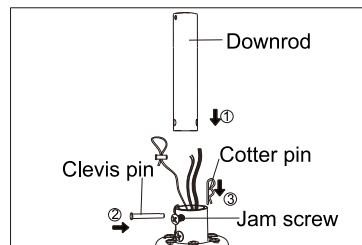

Figure 1.2
- Thread the electric wires and safety cable through the down rod, and insert the down rod into the collar on top of the motor housing. Install the clevis pin by aligning the hole in the down rod with the hole in the top collar, being careful not to damage or cut the fan wires, and secure it with the cotter pin through the hole at the end of the clevis pin. Tighten the two jam screws in the top collar. (Figure 1.2)